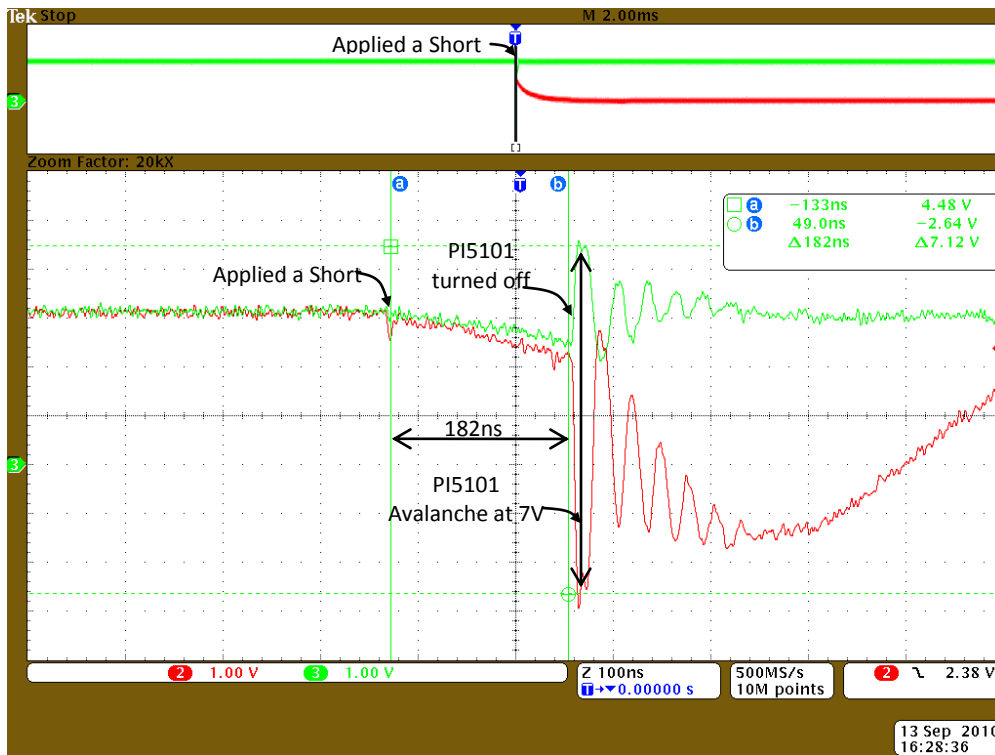

Figure 5: Plot of PI2001 response time to reverse current detection
- 7.5. Apply a short at one of the inputs (Vin1 or Vin2) when both controllers (U1 and U2) are on, PS1, PS2 and PS3 are enabled. The short can be applied electronically using a MOSFET connected between Vin and Gnd or simply by connecting Vin to Gnd. Then measure the response time between when the short is applied and the MOSFET is disconnected (or turned off). An example for PI2001 response time to an input short circuit is shown in Figure 5.